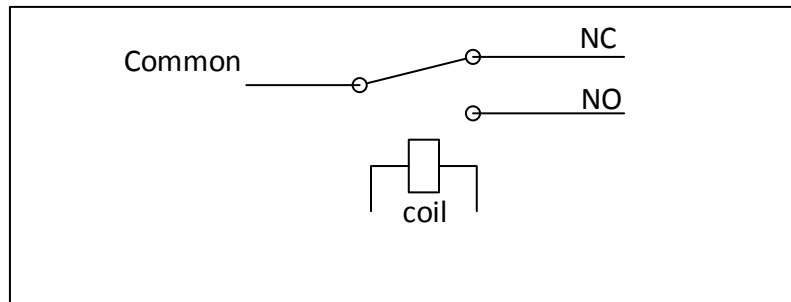

Figure 32: Functional diagram of SPDT relay on optional GTIB-30 client input/output PCB
The three digital outputs are realized via three SPDT relays on the optional GTIB-30 Client I/O device. A functional schematic of the SPDT relay is shown in Figure 32. The switch position is controlled by the GTIB-30 via the coil. The user has access to the normally open (NO), normally closed (NC) and the common (Common) connection of the relays.